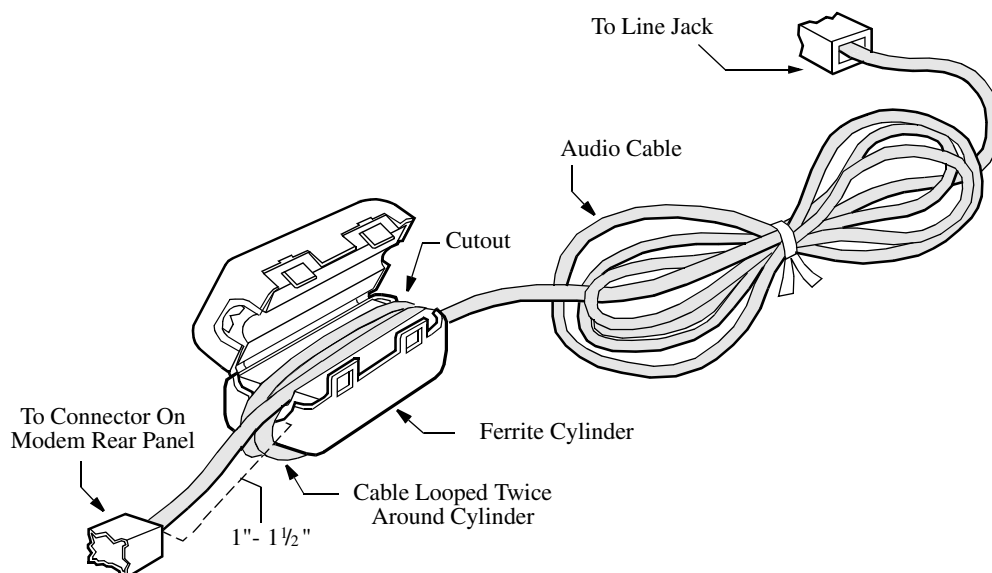

Figure 2-5. Installing a Ferrite Cylinder on an Audio Cable
- 1) Snugly wrap the cable **twice completely around** the cylinder (Figure 2-5).